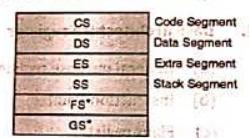

Fig.12.3.1 : Base architecture registers
- The intel x86 architecture register set has six, 16-bit registers and twenty four, 32-bit registers as shown in Fig.12.3.1 and is subdivided into the following groups: